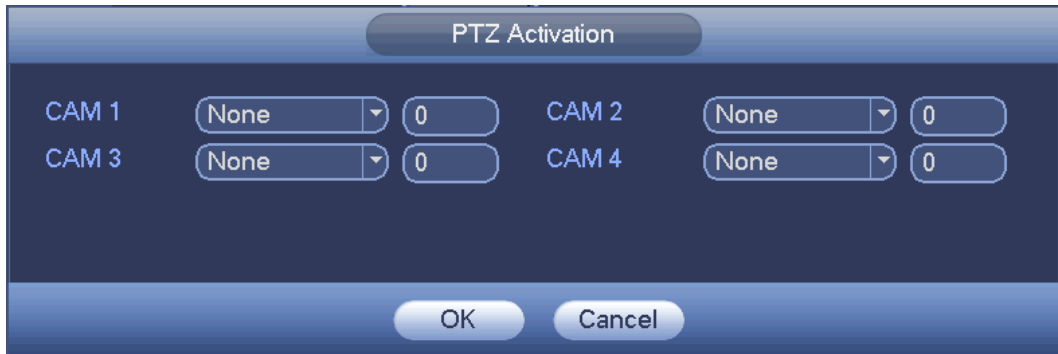

Figure 4-92
- PTZ activation: Here you can set PTZ movement when alarm occurs. Such as go to preset, tour& pattern when there is an alarm. Click “select” button, you can see an interface is shown as in Figure 4-92.